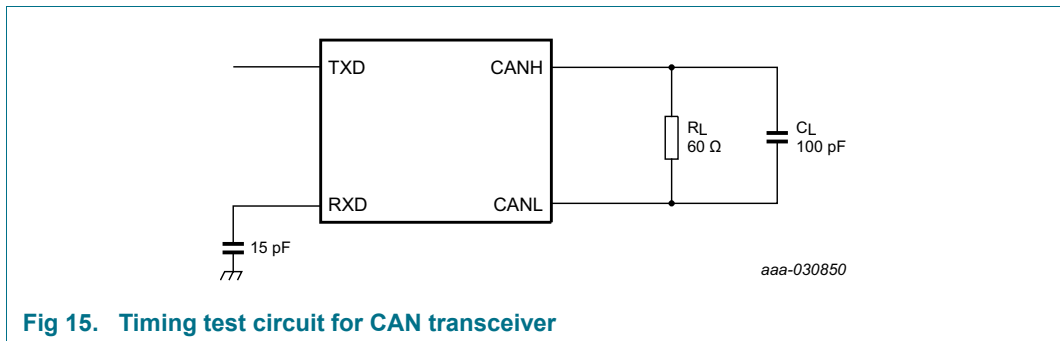

Fig 15. Timing test circuit for CAN transceiver
- [2] See Figure 11 and Figure 15.
- [3] See Figure 12 and Figure 15.